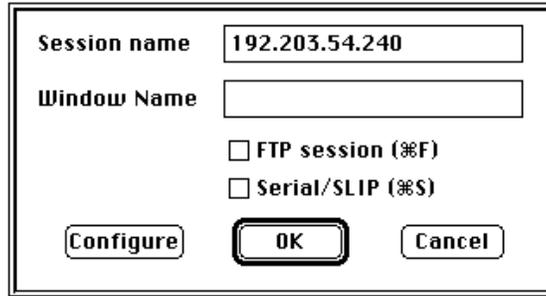

Figure 14 Sample Telnet Session Dialog
- 2** Choose **Open Connection** from the **File** menu. The session dialog appears. Figure 14 shows an example.
- 3** Select the **Session name** field and type the IP address of the hub you want to configure. Figure 14 shows an example with the IP address already typed in.